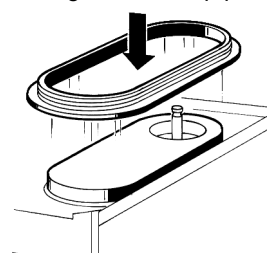

figure 8
- 4 Fit the bowl gasket to the evaporator. Note: the larger brim of the gasket must face against the drip plate (see figure 8).